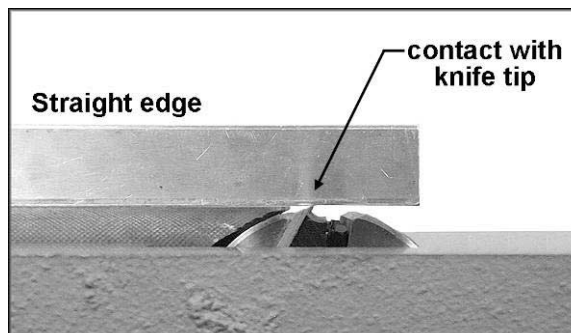

Figure 24
4. Lower the outfeed table until the straight edge contacts the knife, as shown in Figure 24. Using the drive belt, rock the cutterhead slightly to make sure the apex of the knife is contacting the straight edge.